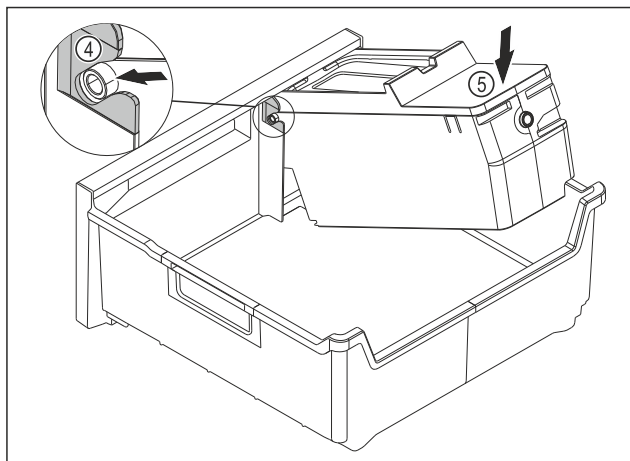

Fig. 90
- Installing the EasyTwist-Ice body: Push the axes for the EasyTwist-Ice body into the guides Fig. 90 (4).
- Press the EasyTwist-Ice body Fig. 90 (5) down at the back.